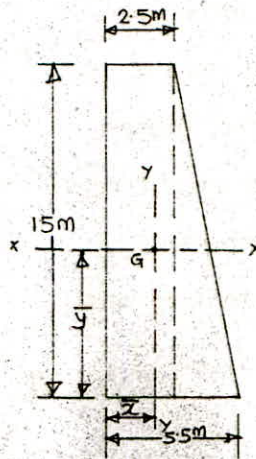

FIG. 3
23. (A) (i) Locate the centroid (\bar{x} and \bar{y}) of trapezoidal section shown in Figure 3. 8